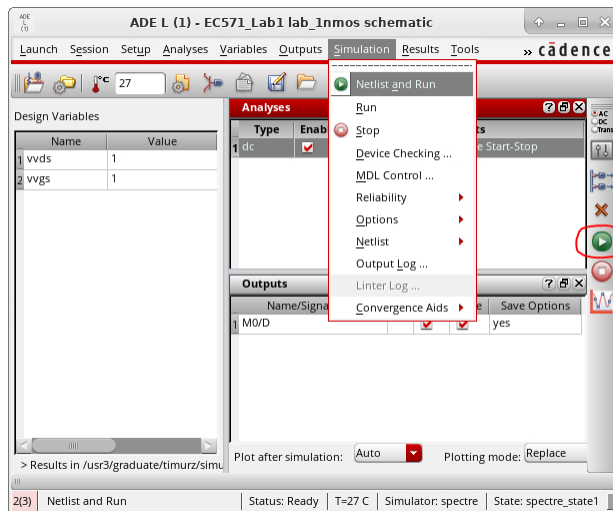
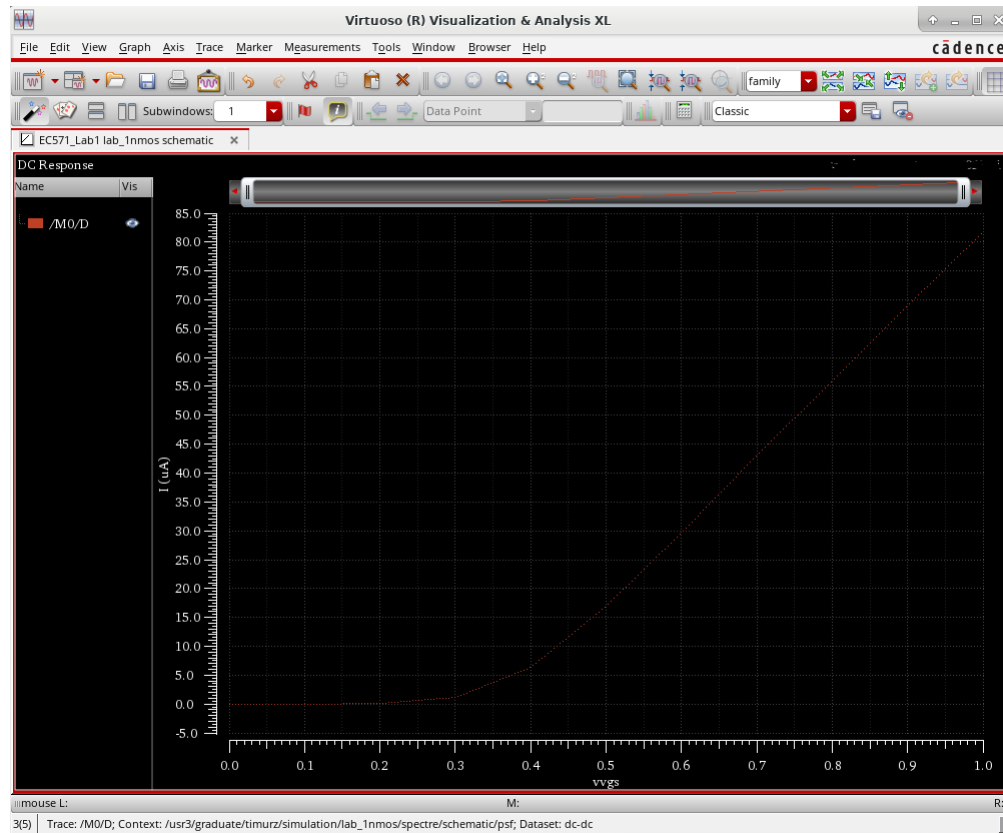

Figure 25: Running the simulation from “ADE L” window
Figure 28: I_D vs. V_{GS} for NMOS
- In the “ADE L” Window, go to Simulation → Netlist and Run to run the simulation. Or, click the green button on the right-hand-side icon bar to run the simulation (see Figure 25). **If you change your schematic, remember to “Save and Check” again before you run the simulation. The simulation won’t run until you save the changed schematic.** The tool will give you an error in the case of unsaved schematic. You can check for your error or warning messages in you “CIW” window. If the simulation completed successfully, the “Visualization and Analysis XL” window will open where you will see a plot of I vs vvgs (see Figure 28)
9. The output should look like the one shown in Figure 28 (you can change the properties of the graph by right clicking on the graph).